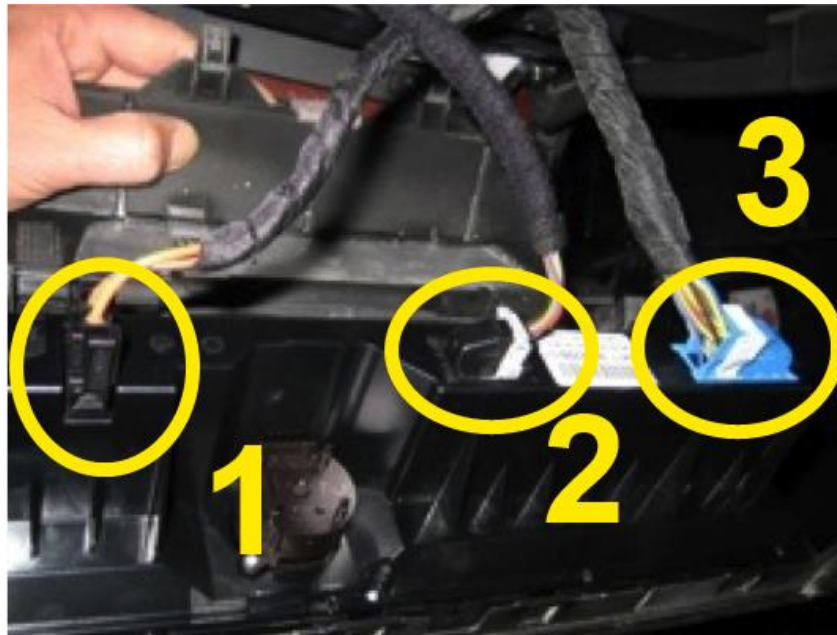

Figure 3 AC Controls Connections
**Before** pulling it out, you'll need to lean it outwards a bit to remove the cables for the AC controls. Lean the top section outward enough that you can get your hands in there and you should see three cables. On the left side, there's a black one (Fig. 3, Item 1) which you'll need to push in on the tabs on either side (top and bottom) and pull straight out. Then, for the middle one (Fig. 3, Item 2), push in the small tab next to the grey piece which is holding the grey piece in place. While pushing the tab in, move the grey piece over the tab (to the left) and the connector will start to pop out. Let go of the tab and continue moving the grey piece and the whole connector will pop out all the way. Repeat this on the blue connector
(Fig. 3, Item 3) and there should be no more cables connected to the trim piece. Once you've removed the cables, pull the center trim out all the way (try to pull it straight out. If you feel resistance, make sure the bottom tabs haven't popped back into place, otherwise they may snap off. They're located on the bottom side of the trim piece). Put the trim way somewhere safe and clean.